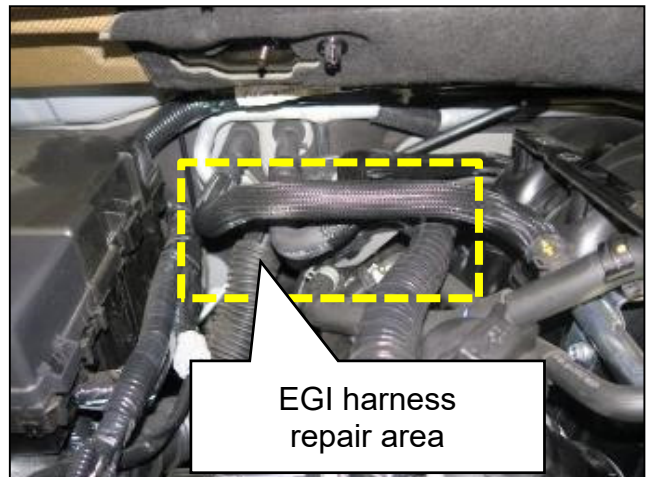

Figure 6
**NOTE:** The EGI harness repair will be performed toward the back of the passenger side valve cover, as shown in Figure 6.